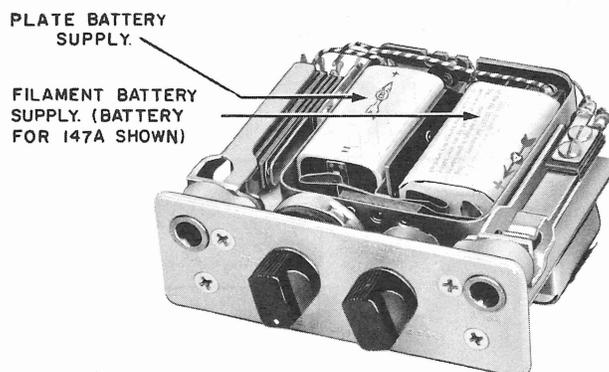

Fig. 4 – 147-Type Amplifier-Cover Removed
(a) The 147A amplifier is mounted in an aluminum casing. The outside dimensions are 4-7/16 in. by 4-7/16 in. by 1-7/16 in. It weighs approximately 1-1/2 pounds. Fig. 3 shows the amplifier with the cover in place and Fig. 4 shows it with the cover removed.
- (c) The batteries are held in place in both amplifiers by means of spring clips on the amplifier chassis (see Fig. 4).